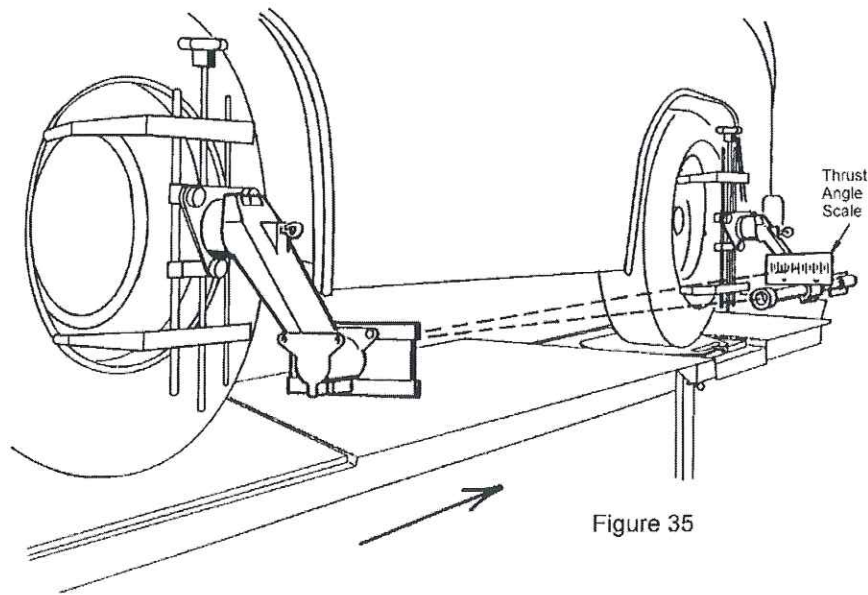

Figure 35
- 1) Check that both Laser Toe Gauges are level. The laser beams should be visible on the rear Retro-screen mirrors (See Fig. 35).